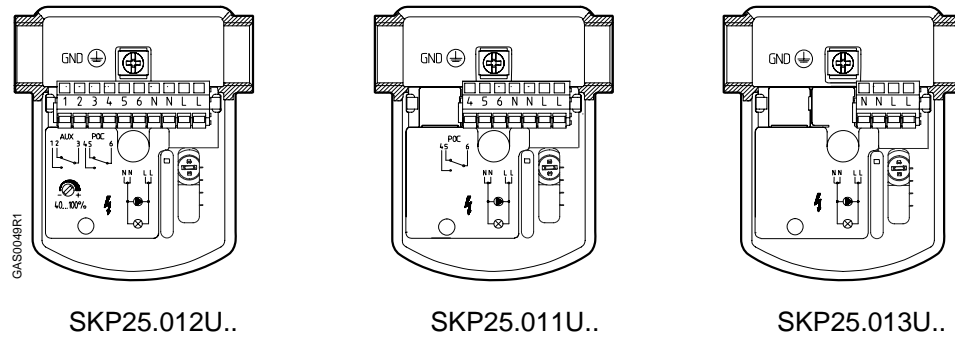

Figure 3. Terminal Designations.
- Adjust the auxiliary switch (if provided) according to the wiring diagram on the label below the terminals (see Figure 3). The adjustment screw and scale are located on the right side of the terminal box, and are visible through the transparent portion of the terminal cover.